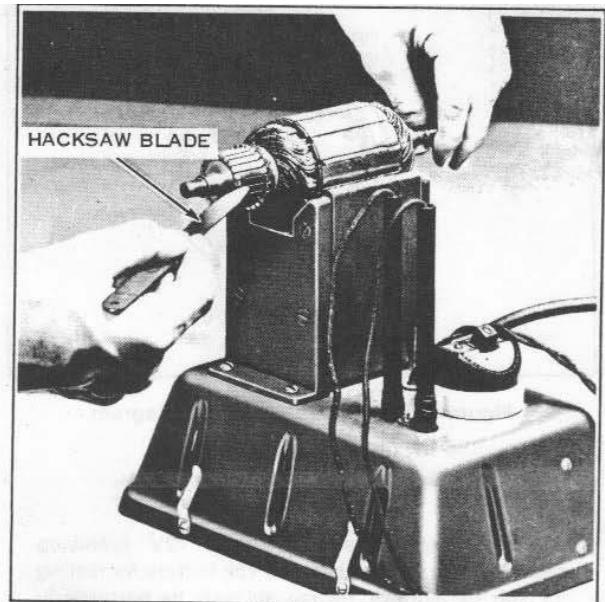

Figure 5-16. Testing Armature for Open Circuit
**Test for Open (Figure 5-16).** Place armature in growler. Turn growler on. Insert tip of hacksaw blade between commutator segments that are in horizontal alignment with top of growler "V" shaped cradle. Make and break contact between segments with hacksaw blade. A strong flash should be seen as contact is broken. No flash or a weak flash indicates an open circuit.